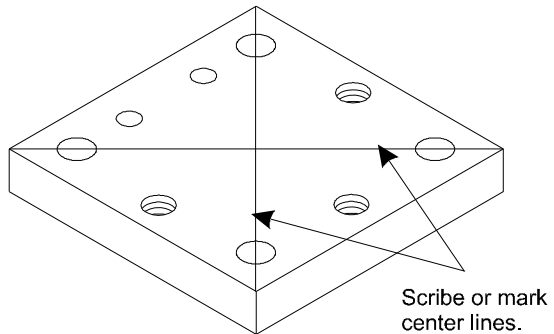

FIG. 15: MARKING TOP PLATE FOR INSTALLATION
- Step 2. We recommend scribing or marking a centerline on the top plate. (See Fig. 15)